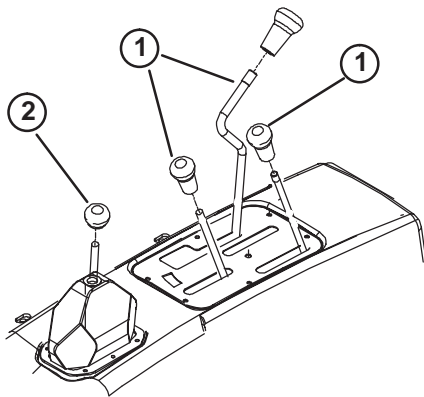

Figure 1
1. Unscrew and remove all knobs from console levers and from the gear shift lever (Fig. 1).